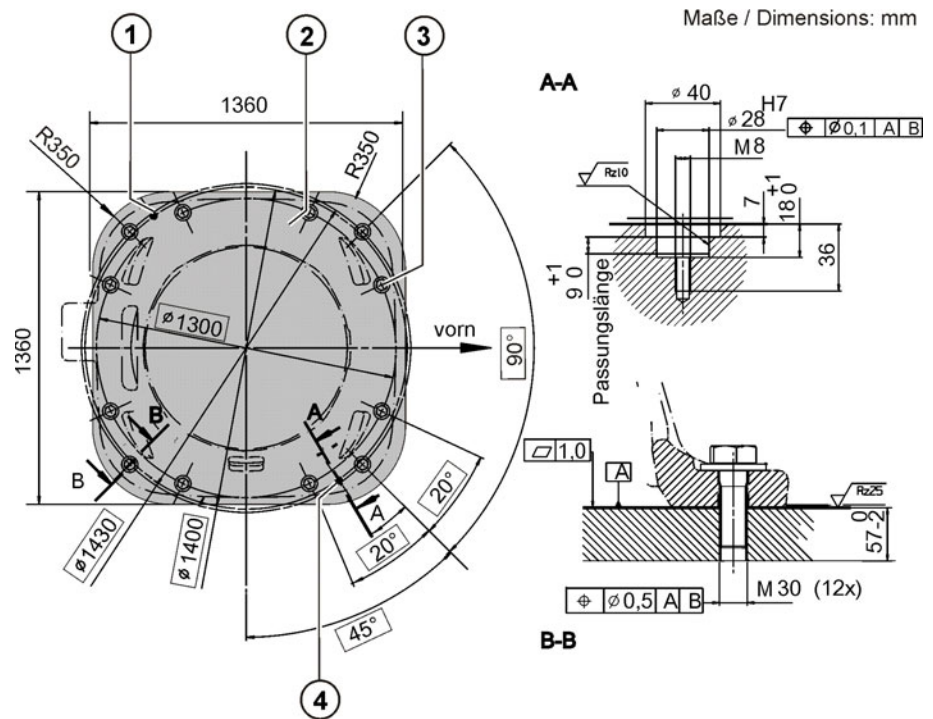

**Fig. 6-4: Machine frame mounting**
- Pin with fasteners (>>> Fig. 6-4 )